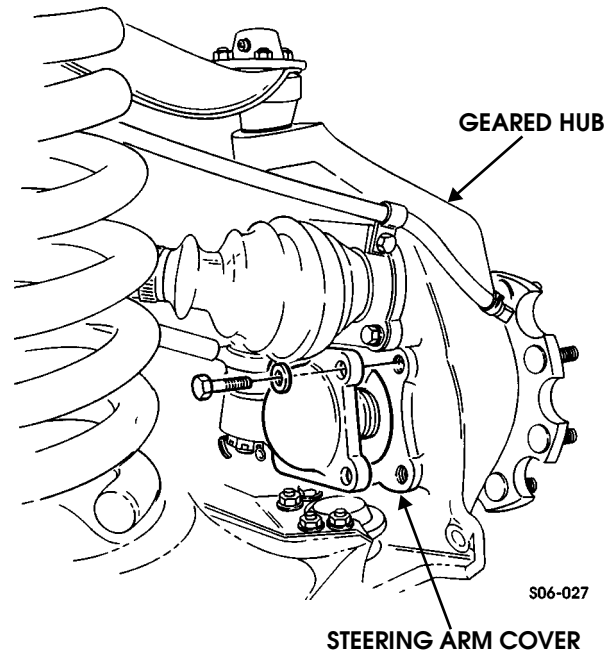

Figure 9-34: Geared Hub Steering Arm Cover Removal
3. Remove four bolts, washers, and steering arm cover from geared hub (Figure 9-34).